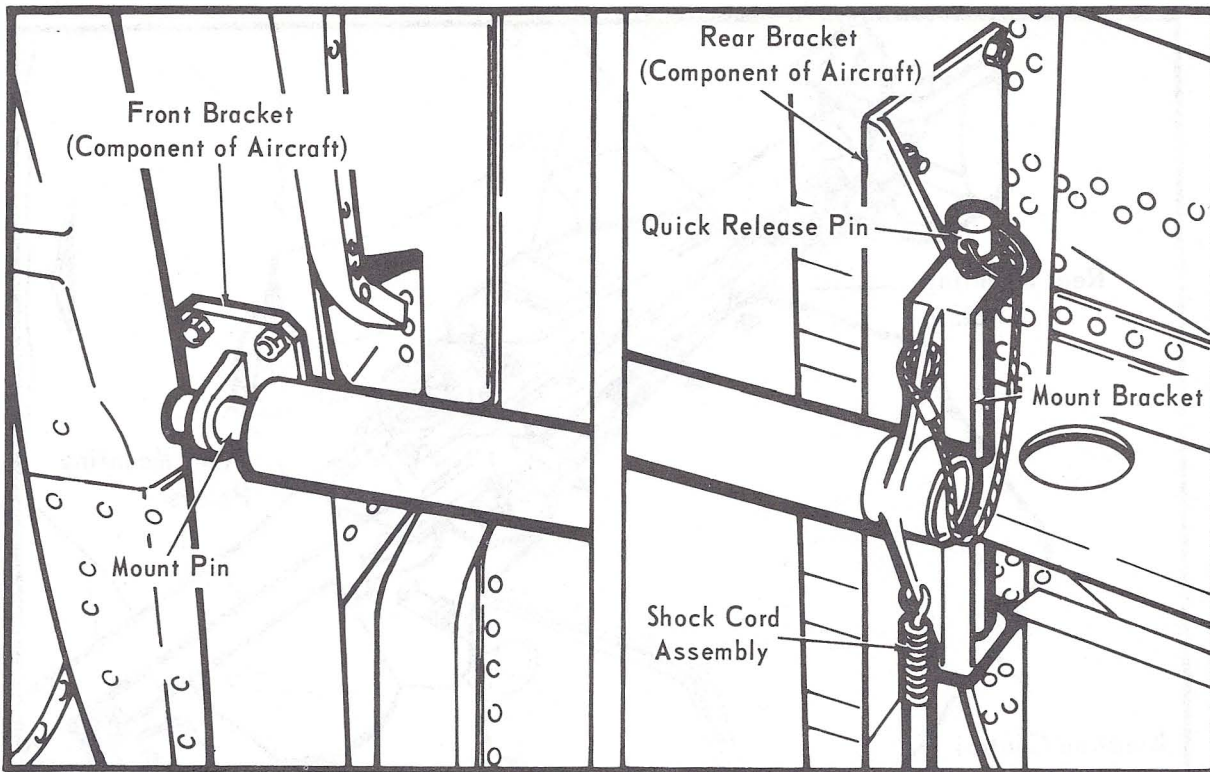

Figure 4-5. Right Machine Gun Mount—Installed
The mount assemblies (figure 4-5) are installed on mounting brackets fastened inside the helicopter and secured with mounting pins.
c. The quick-release pin (figure 4-5) is attached by cable to the mount bracket of the mount assembly and fastens the mount bracket to the rear bracket at the helicopter opening.